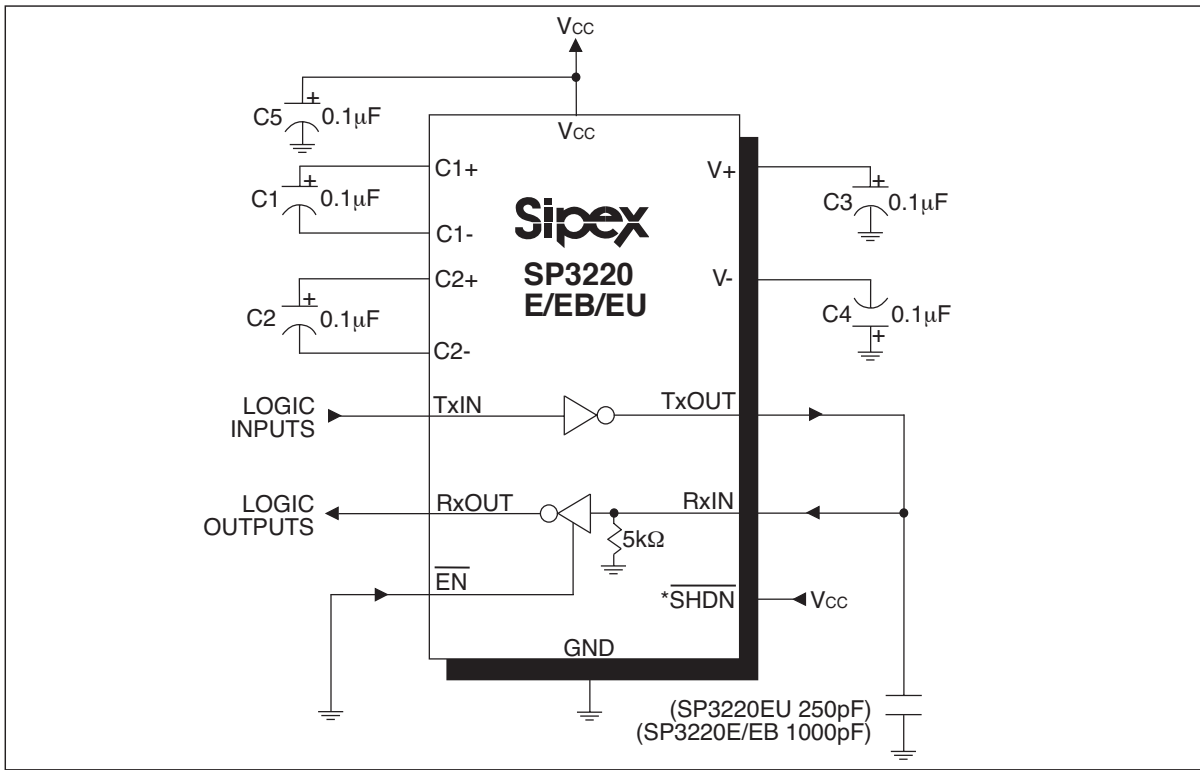
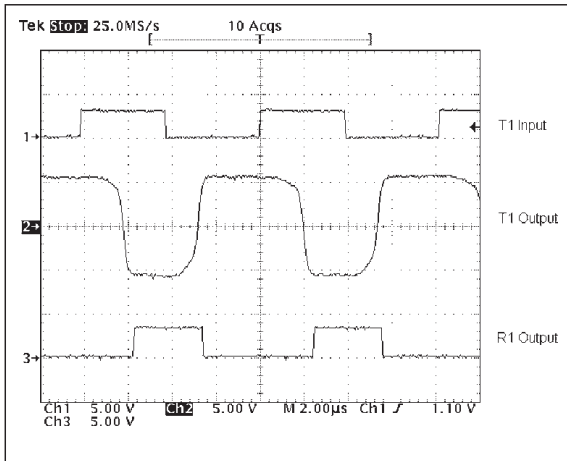
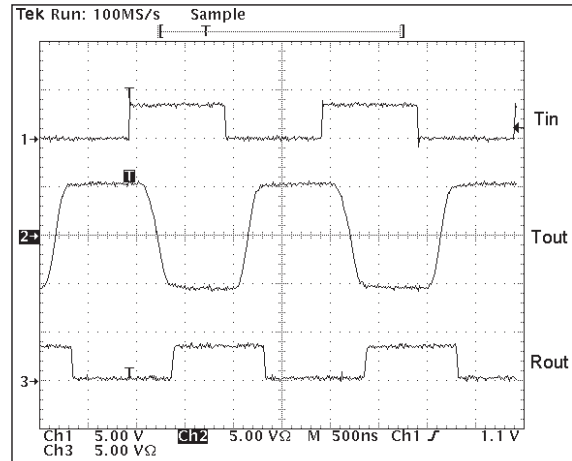

Figure 12. SP3220E/EB/EU Driver Loopback Test Circuit
Figure 13. SP3220EB Driver Loopback Test Results at 250Kbps
Figure 14. SP3220EU Driver Loopback Test Results at 1Mbps
*Figure 12* shows a loopback circuit used to test the RS-232 driver. *Figure 13* shows the test results of the loopback circuit with the SP3220EB driver active at 250Kbps with an RS-232 load in parallel with a  $1000\text{pF}$  capacitor. *Figure 14* shows the test results where the SP3220EU driver was active at 1000Kbps and loaded with an RS-232 receiver in parallel with a  $250\text{pF}$  capacitor. A solid RS-232 data transmission rate of 250Kbps provides compatibility with many designs in personal computer peripherals and LAN applications.